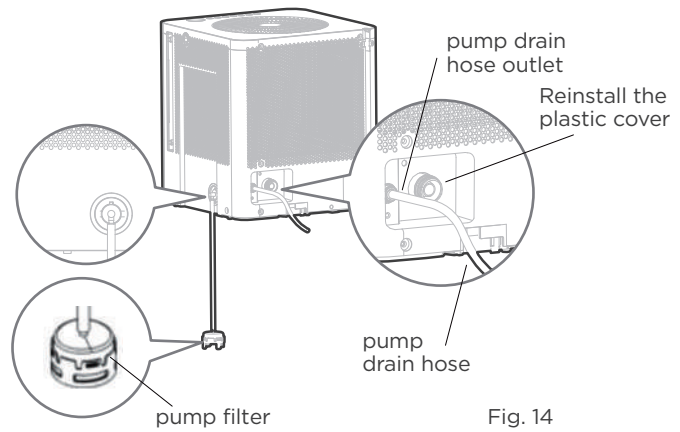

Fig. 14
- To install the pump hose, remove the plug from the pump drain hole and firmly attach the included pump hose as shown in Fig. 14.